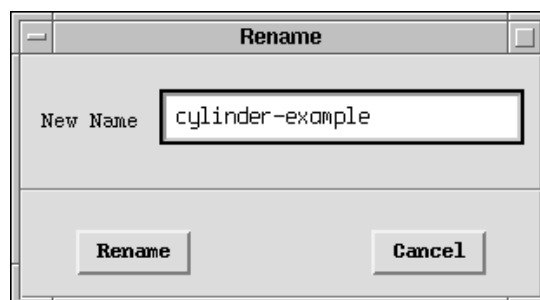

Figure 2.2.5: Rename Panel
2. Select the template and click Rename. The Rename panel (Figure 2.2.5) is displayed.